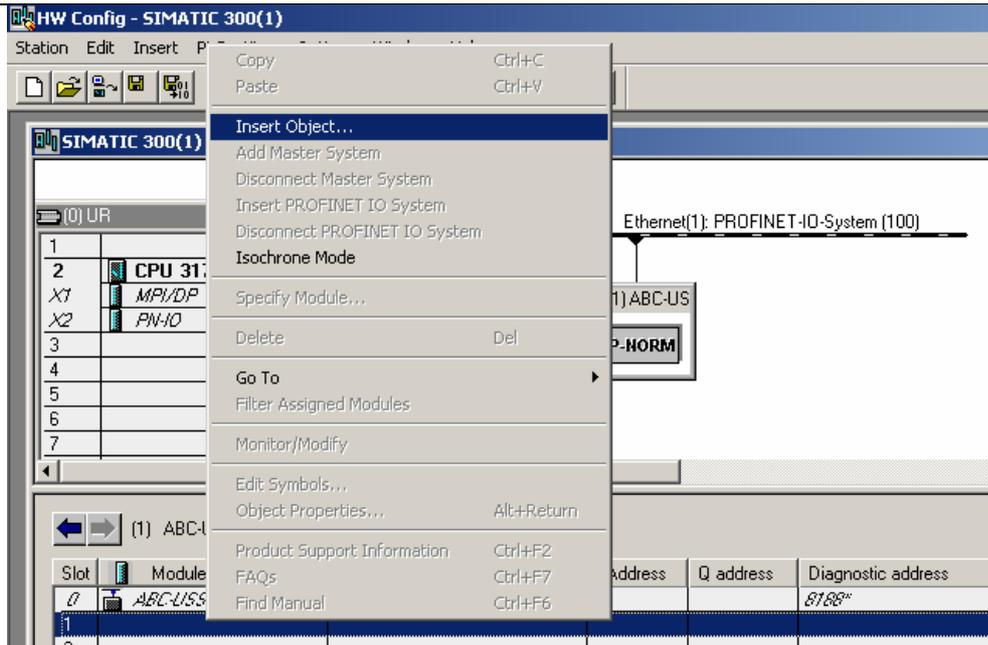

Figure 11
7. Next add an Object and the correct PKW and PZD and edit the I/O addresses if necessary, as shown in figure 11 and 12. The chosen values for PKW and PZD must correspond to the parameter-settings for PKW and PZD in the addressed USS-slaves.